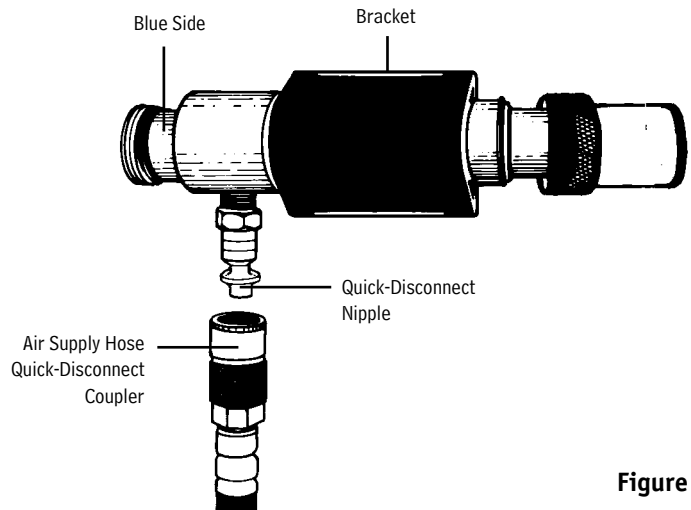

Figure 1
1. Screw the nylon hose connector on the end of the breathing tube onto the blue side of the ACL99 Tube (Figure 1). Tighten firmly.